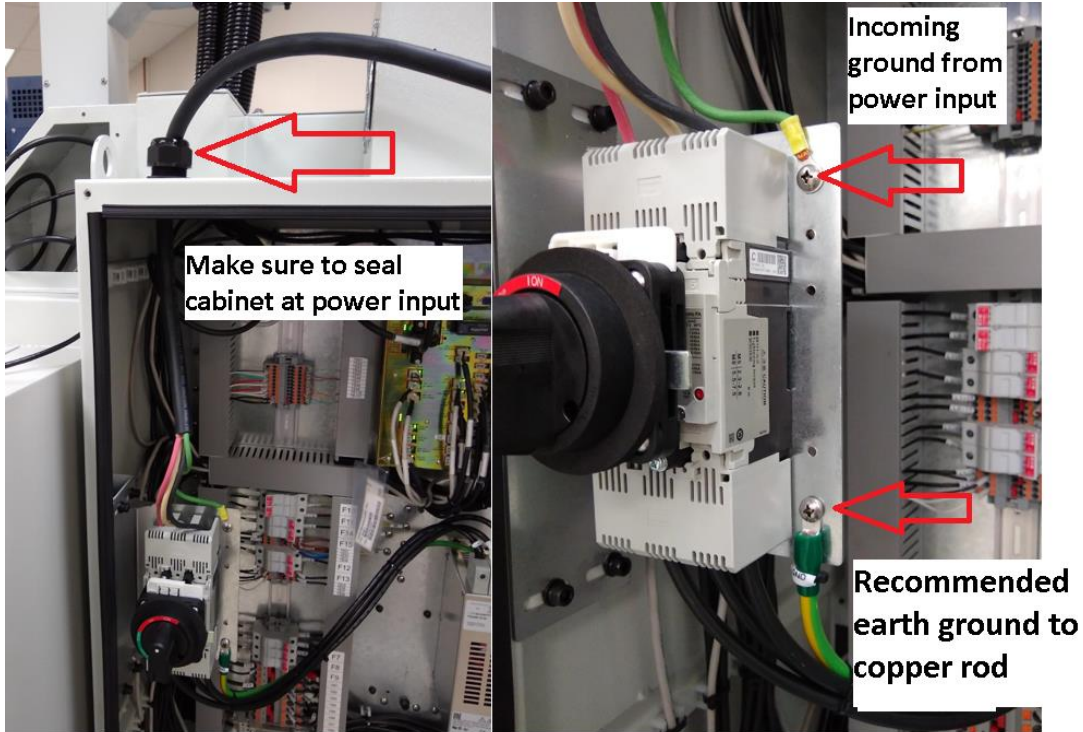
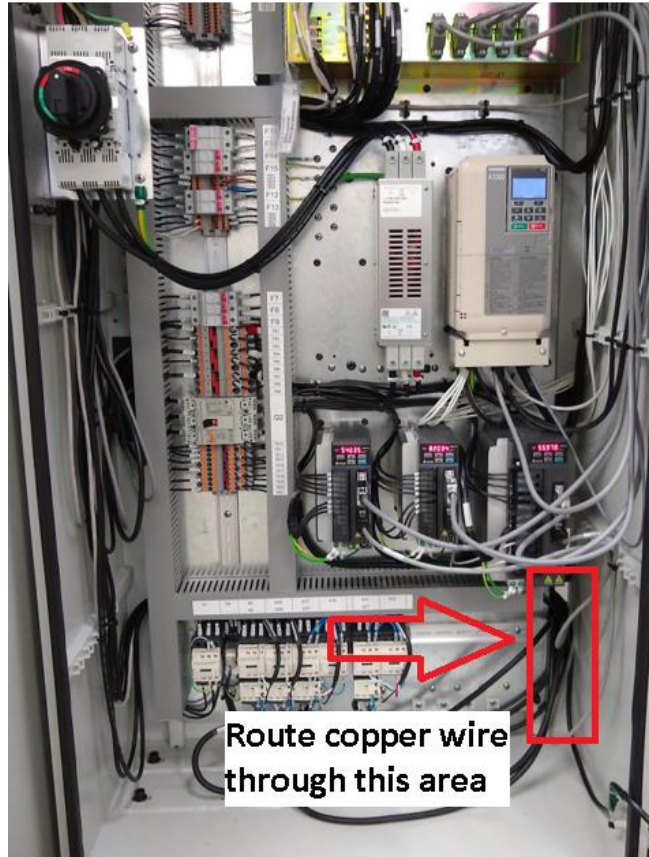

Figure 9 – Connect the Ground Wire
Figure 10 – Exit Location for Ground Wire to Copper Rod
- Machine tool must be earth grounded with a dedicated 8-foot long copper rod. The 6-gage ground wire should run from the copper rod to grounding location in the electrical cabinet. See figures 9 and 10.
The 3 phase 208 voltage (200 – 240 V is acceptable) is connected to L1, L2 and L3 at the main power switch inside the electrical box. Connect the ground wire as shown in the figure 9.
It is strongly recommended that the machine be earth grounded. A dedicated copper rod 8 feet or so in length should be driven into the ground near the VMC. A ground wire should then be run from the location shown in figure 9. The copper wire should exit the electrical cabinet in the lower right hand corner as shown in figure 10. Make sure the foam where the copper wire goes through seals the cabinet from external debris. The wire should be 6 gage in size.